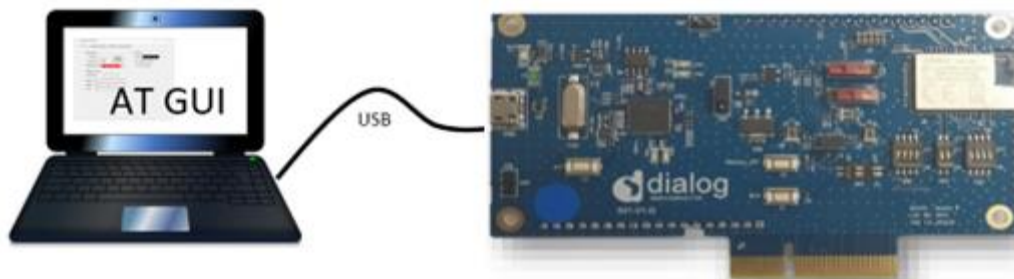

Figure 2. Devkit connections
1. Connect the DA16200 Development Kit (Devkit) to the host computer as shown in Figure 2.